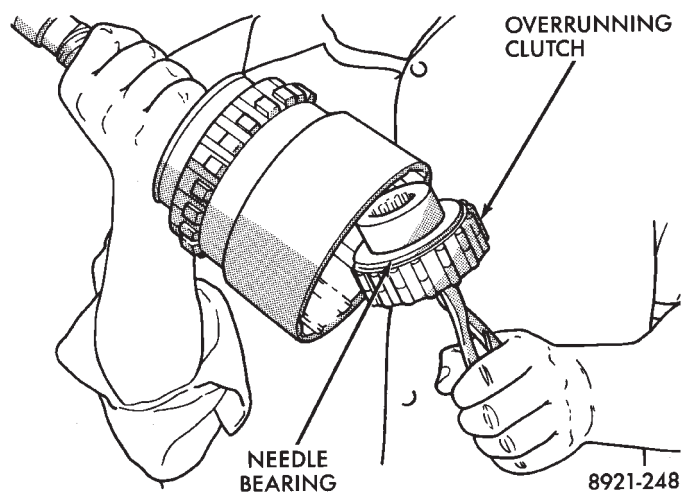
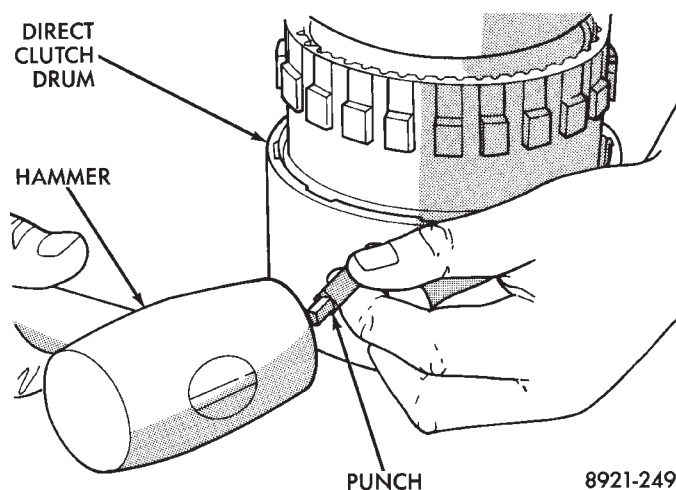

Fig. 203 Overrunning Clutch Assembly Removal/Installation
Fig. 204 Marking Direct Clutch Drum And Annulus Gear For Assembly Alignment
(3) Remove overrunning clutch assembly with expanding type snap ring pliers (Fig. 203). Insert pliers into clutch hub. Expand pliers to grip hub splines and remove clutch with counterclockwise, twisting motion.
(4) Remove thrust bearing from overrunning clutch hub.
(5) Remove overrunning clutch from hub.
(6) Mark position of annulus gear and direct clutch drum for assembly alignment reference (Fig. 204). Use small center punch or scribe to make alignment marks.